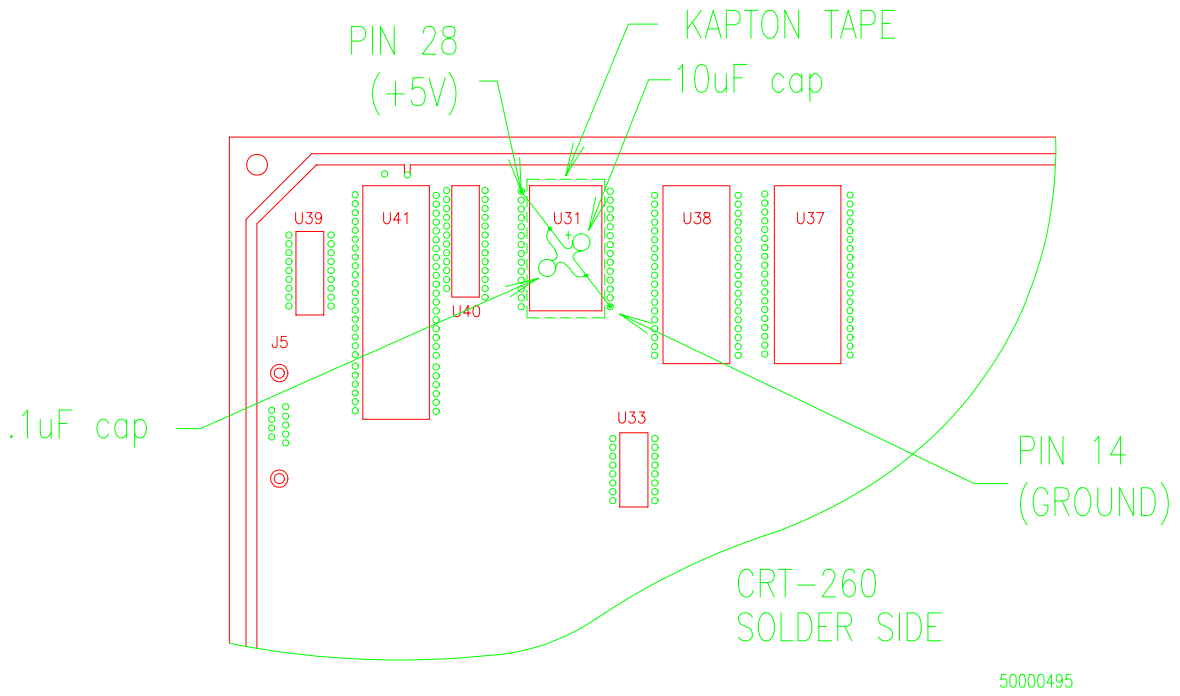

Figure 1 - Capacitor Installation Location, U31 of the CRT-260
4. Solder the .1 μ F ceramic capacitor across the 10 μ F tanta capacitor, as shown in Figure 1.
7. Solder the positive (“+”) lead, of the 10 μ F tanta capacitor, to Pin 28 of U31 and solder the other lead to Pin 14. See Figure 1. **NOTE: BE CAREFUL NOT TO ALLOW THE CAPACITOR LEAD, OR THE SOLDER, TO CONTACT ANY OF THE NEIGHBORING PINS.**